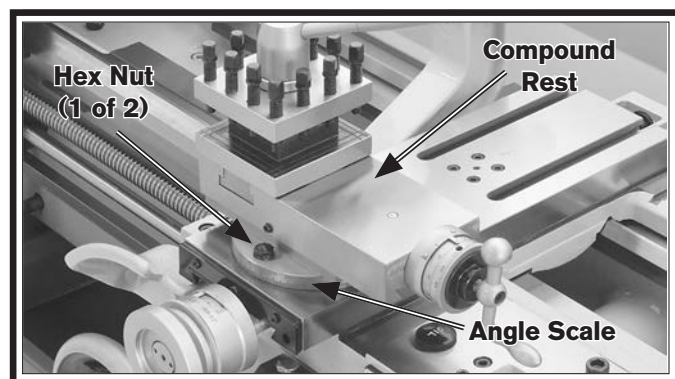

Figure 56. Compound rest.
1. Loosen the two hex nuts at the base of the compound rest (1 of 2 shown in **Figure 56**).